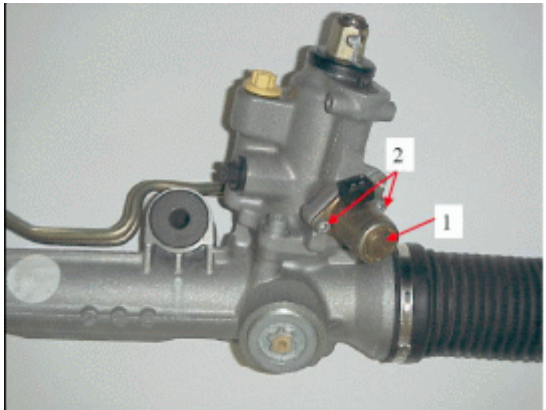

Figure 1 P-B-46.50/33
3. Unscrew bolts (2) from parameter valve (1) (Figure 1).